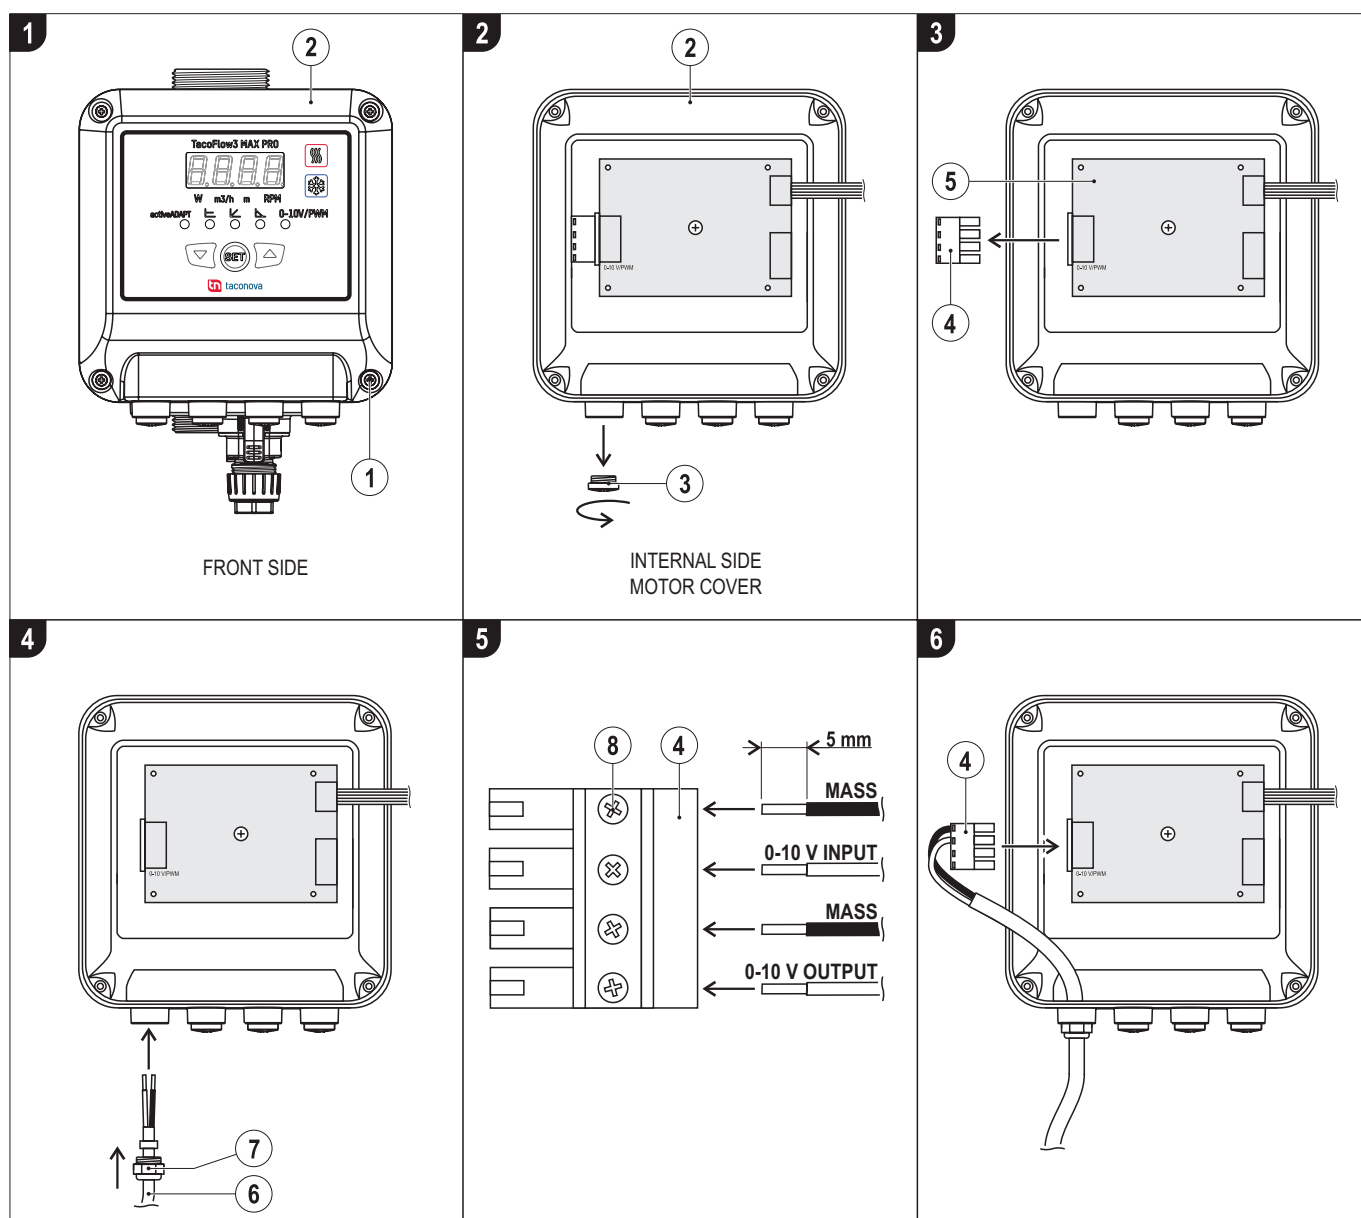

FIG. 11 (External connection for 0-10 V / PWM signal)
- 1) Unscrew the four screws (FIG. 11 - Ref. 1) that secure the motor cover (FIG. 11 - Ref. 2)
- 2) Unscrew a signal output cap (FIG. 11 - Ref. 3)
- 3) Disconnect the connector (FIG. 11 - Ref. 4) from the electronic board (FIG. 11 - Ref. 5)
- 4) Insert the cable (FIG. 11 - Ref. 6) in the cable gland M12x1.5 (FIG. 11 - Ref. 7) (not supplied) and screw it to the cover
- 5) Strip (MIN 5 mm) the ends of the wires, insert them in the connector (FIG. 11 - Ref. 4) and secure them with the screws (FIG. 11 - Ref. 8)